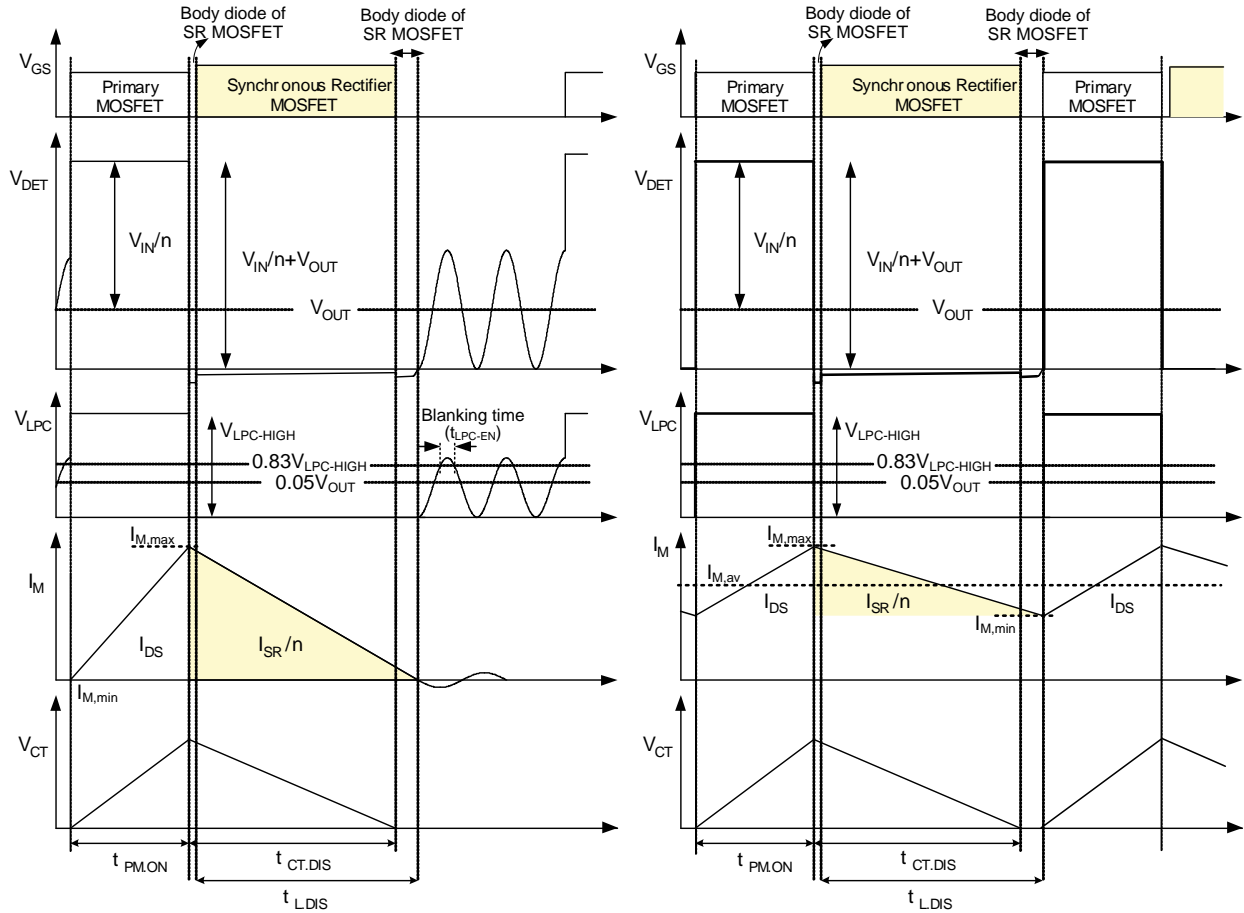

Figure 18. Typical Waveforms of Linear-Predict Timing Control in CCM and DCM/QR Flyback
The SR MOSFET turn-off timing is determined by linear-predict timing control and the operation principle is based on the volt-second balance theorem. The volt-second balance theorem states that the inductor average voltage is zero during a switching period in steady state, so the charge voltage and charge time product is equal to the discharge voltage and discharge time product. In flyback converters, the charge voltage on the magnetizing inductor is input voltage ( $V_{IN}$ ), while the discharge voltage is  $nV_{OUT}$ , as the typical waveforms show in Figure 18. The following equation can be drawn:
FAN6204A uses the LPC and RES pins with two sets of voltage dividers to sense DET voltage ( $V_{DET}$ ) and output voltage ( $V_{OUT}$ ), respectively; so  $V_{IN}/n$ ,  $t_{PM,ON}$ , and  $V_{OUT}$  can be obtained. As a result,  $t_{L,DIS}$ , which is the on-time of SR MOSFET, can be predicted by Equation (1). As shown in Figure 18, the SR MOSFET is turned on when the SR MOSFET body diode starts conducting and DET voltage drops to zero. The SR MOSFET is turned off by linear-predict timing control.
The linear-predict timing-control circuit generates a replica ( $V_{CT}$ ) of magnetizing current of flyback transformer using internal timing capacitor ( $C_T$ ), as shown in Figure 19. Using the internal capacitor voltage, the inductor discharge time ( $t_{L,DIS}$ ) can be detected indirectly, as shown in Figure 18. When  $C_T$  is discharged to zero, the SR controller turns off the SR MOSFET.
Referring to Figure 18; when LPC voltage is higher than  $V_{LPC-EN}$  over a blanking time ( $t_{LPC-EN}$ ) and lower than  $V_{LPC-TH-HIGH}$  ( $0.05 V_{OUT}$ ), then SR MOSFET can be triggered. Therefore,  $V_{LPC-EN}$  must be larger than  $V_{LPC-TH-HIGH}$  or the SR MOSFET cannot be turned on. When designing the voltage divider of LPC,  $R_1$  and  $R_2$  should be considered as:
The typical waveforms of CCM operation in steady state are shown as Figure 18. When the primary-side MOSFET is turned on, the energy is stored in  $L_m$ . During the on-time of the primary-side MOSFET ( $t_{PM.ON}$ ), the magnetizing current ( $I_M$ ) increases linearly from  $I_{M,min}$  to  $I_{M,max}$ . Meanwhile, internal timing capacitor ( $C_T$ ) is charged by current source ( $i_{CHR} - i_{DISCHR}$ ) proportional to  $V_{IN}$ , so  $V_{CT}$  also increases linearly.
In DCM / QR operation, when primary-side MOSFET is turned off, the energy stored in  $L_m$  is fully released to the output at the turn-off timing of primary-side MOSFET. Therefore, the DET voltage continues resonating until the primary-side MOSFET is turned on, as depicted in Figure 18. While DET voltage is resonating, DET voltage and LPC voltage drop to zero by resonance, which can trigger the turn-on of the SR MOSFET. To prevent fault triggering of the SR MOSFET in DCM operation, blanking time is introduced to LPC voltage. The SR MOSFET is not turned on even when LPC voltage drops below  $0.05 V_{OUT}$  unless LPC voltage stays above  $0.83 V_{LPC-HIGH}$  longer than the blanking time ( $t_{LPC-EN}$ ). The turn-on timing of the SR MOSFET is inhibited by gate inhibit time ( $t_{INHIBIT}$ ), once the SR MOSFET turns off, to prevent fault triggering.